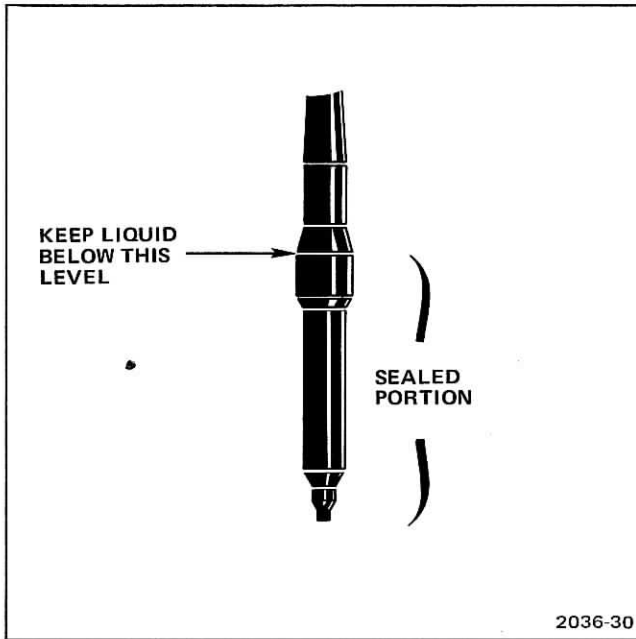

Fig. 3-1. Sealed portion of temperature probe.
- b. When placing the temperature probe in a solution, keep the level of the solution below the bulge in the probe body (Figure 3-1).